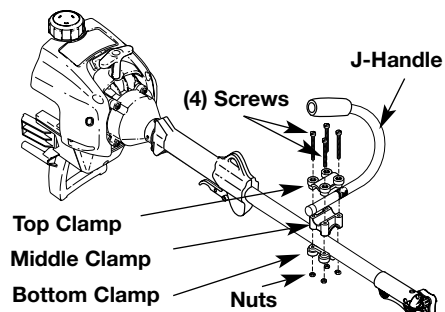

Fig. 4
1. Place the J-handle between the top and middle clamp pieces (Fig. 4).